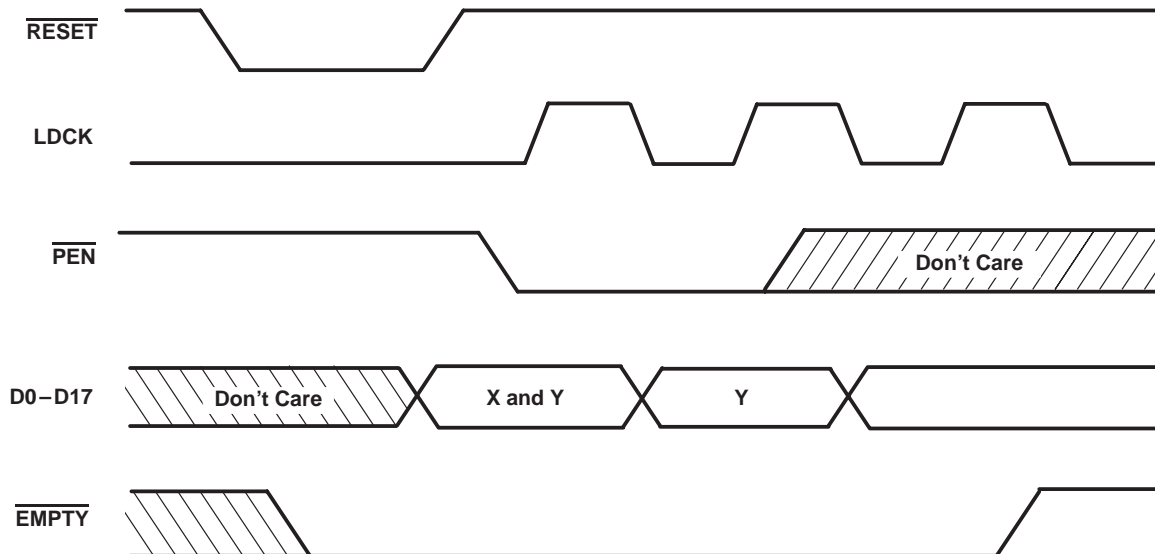

Figure 2. Programming X and Y Separately
To program the offset values, \overline{PEN} can be brought low after reset. On the following low-to-high transition of LDCK, the binary value on D0–D7 is stored as the almost empty offset value (X) and the almost full offset value (Y). Holding \overline{PEN} low for another low-to-high transition of LDCK reprograms Y to the binary value on D0–D7 at the time of the second LDCK low-to-high transition. Writes to the FIFO memory are disabled while the offsets are programmed. A maximum value of 255 can be programmed for either X or Y (see Figure 2). To use the default values of X = Y = 64, \overline{PEN} must be held high.